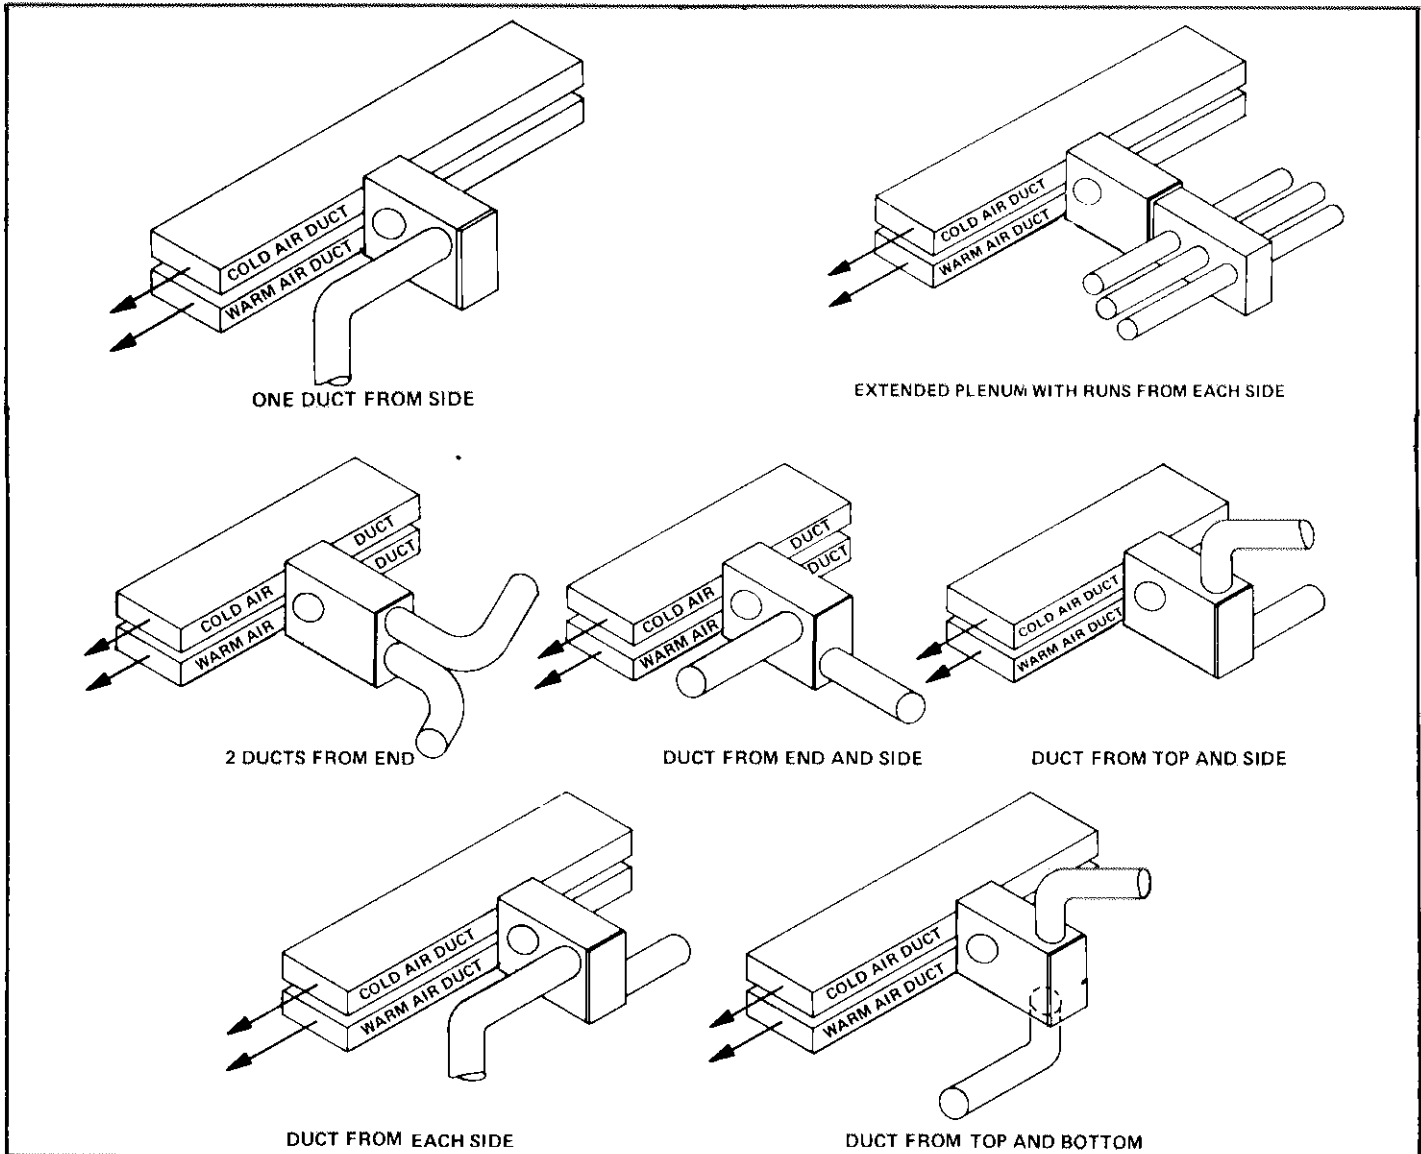

FIGURE 11
- a - When running one duct from the zone box, remove splitter baffle. Refer to Figure 11.
- b - When two ducts are run from the damper box, always take off opposite sides of the splitter baffle. Refer to Figure 11.
- c - When 3 or more ducts are required, use an extended plenum and run individual ducts from plenum. Refer to Figure 11.